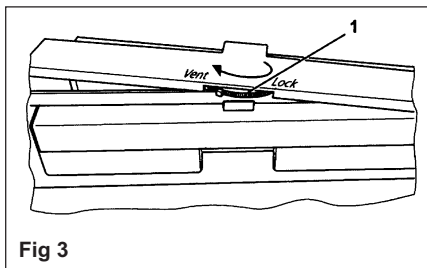

Fig 3
- Turn the locking wheel (See fig 3) anti-clockwise to the end stop ('Vent')